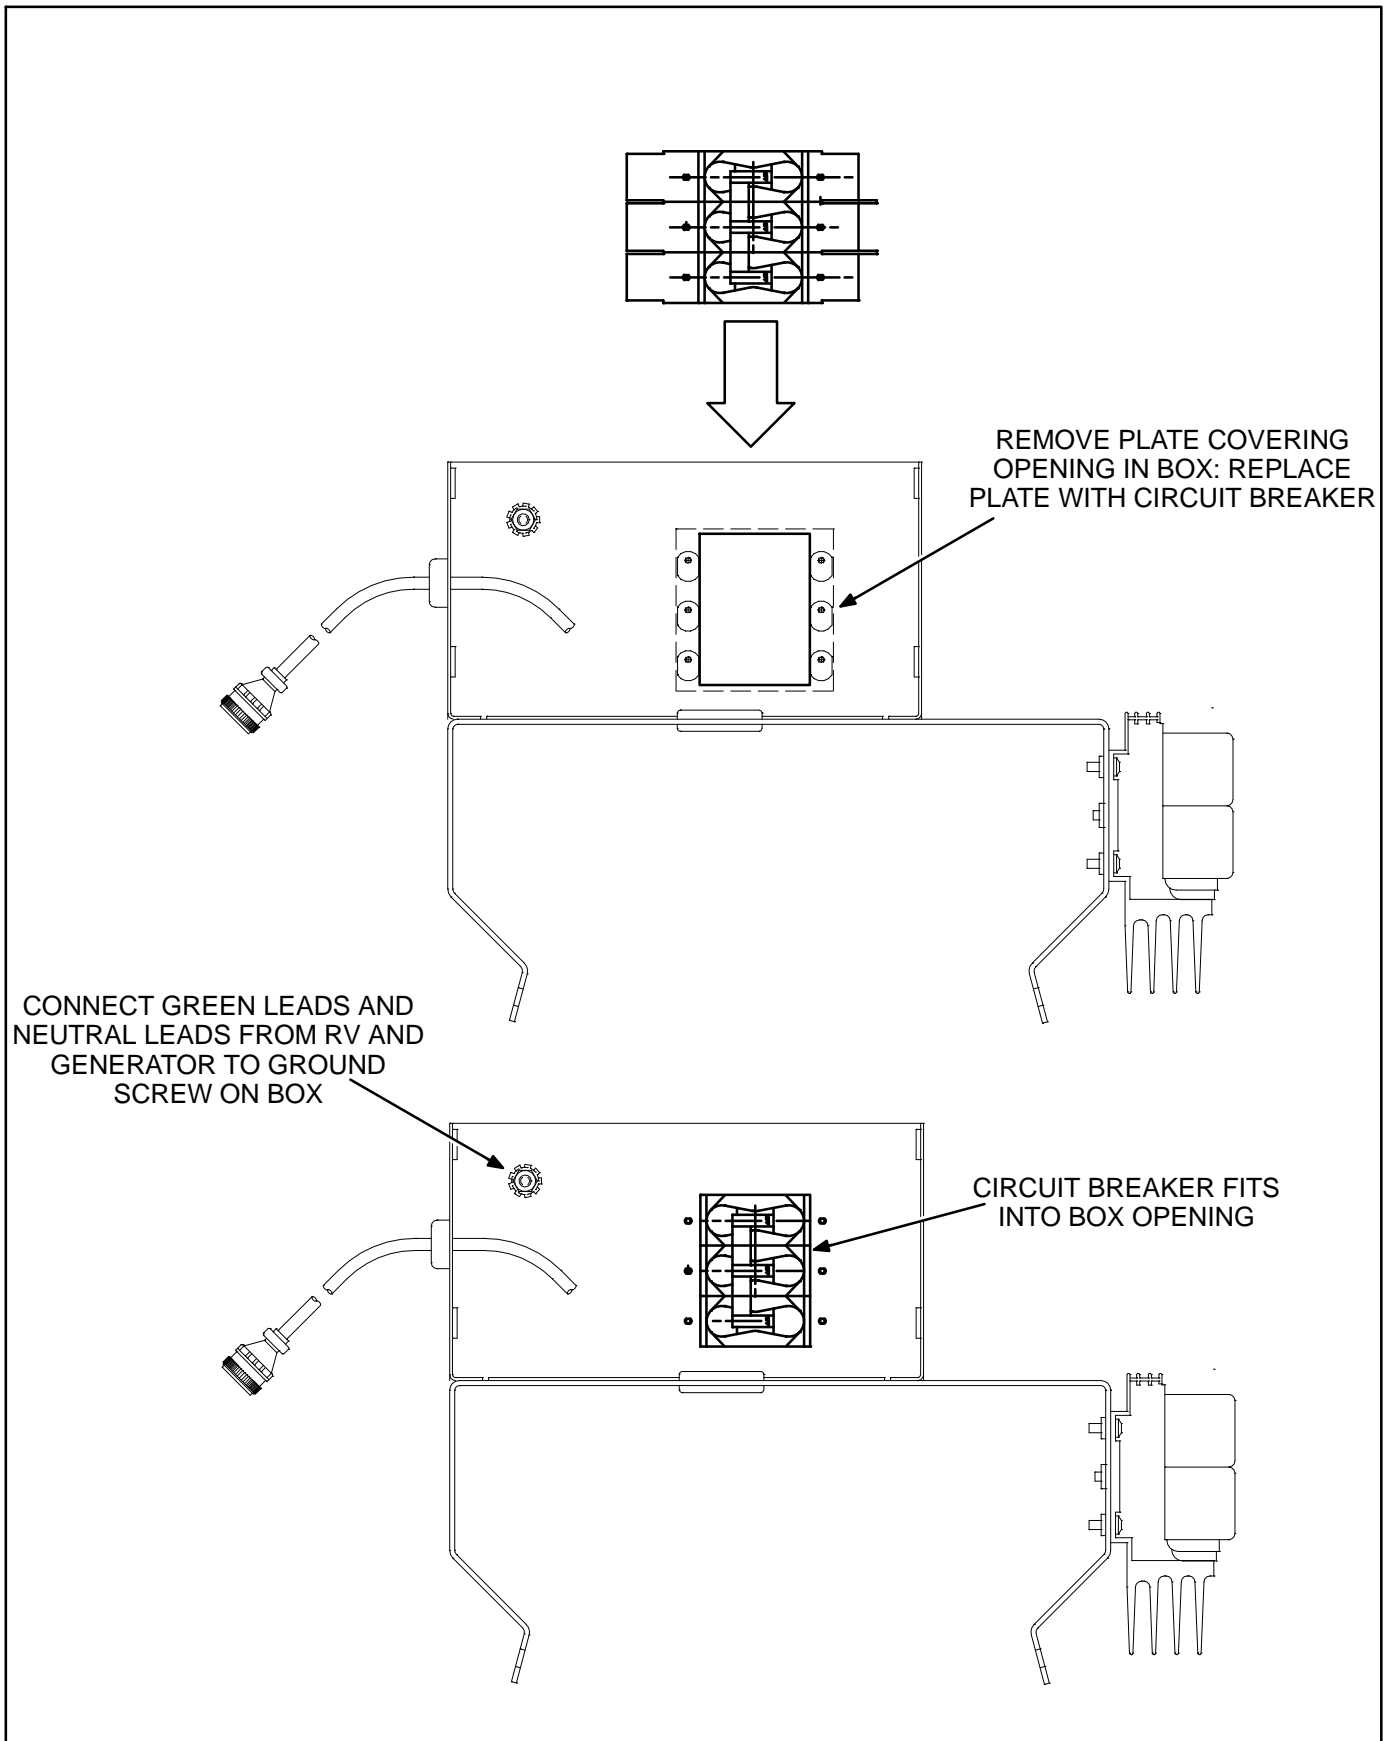

FIGURE 9-9. MOUNTING CIRCUIT BREAKER IN CONTROL BOX (1 of 2)
6. Mount the circuit breaker assembly in the control box using screws and washers the held the cover plate (Figures 9-9 and 9-10).